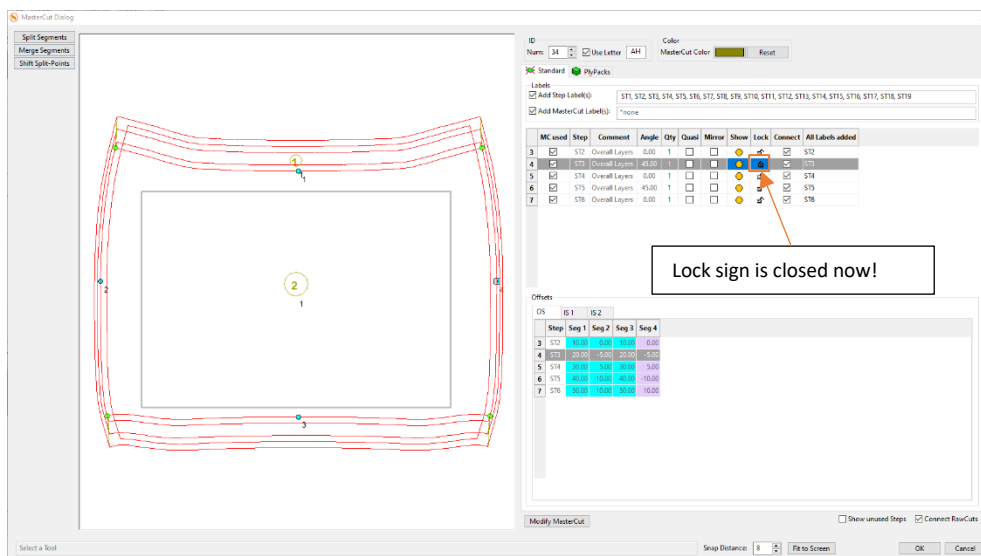

Figure 405
11. Now we can see, that the RawCut of ST3 is indicated in grey. This tells us that this RawCut is locked and does not react to any changes of any offsets anymore. It will remain as it is, and it will be added to the MasterCut Output instead of the automatically generated RawCut. Further, also the lock sign is closed now (Figure 405), stating that the RawCut of this step is locked.